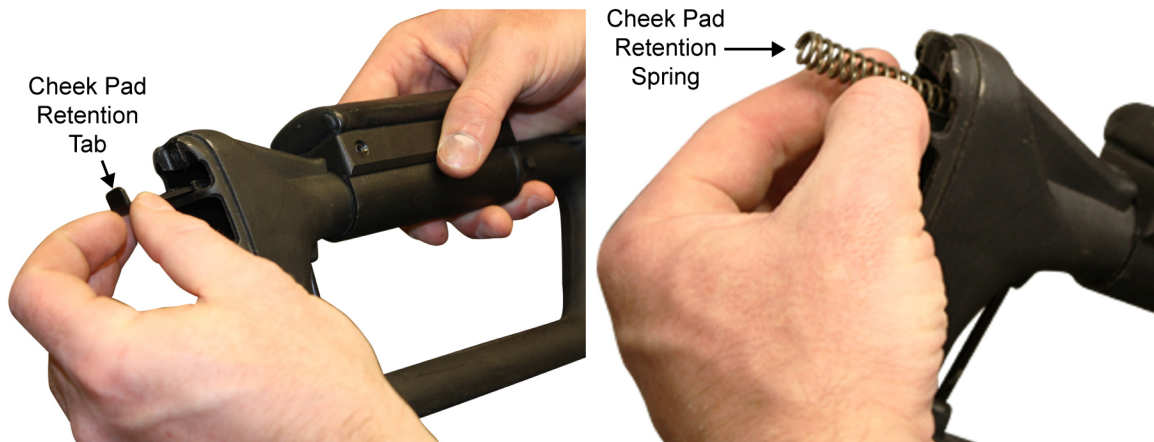

Figure 5. Insert the Cheek Pad Retention Tab and the Cheek Pad Retention Spring.
1. Insert the cheek pad retention tab, then the cheek pad retention spring into the buttstock. Refer to Figure 5.